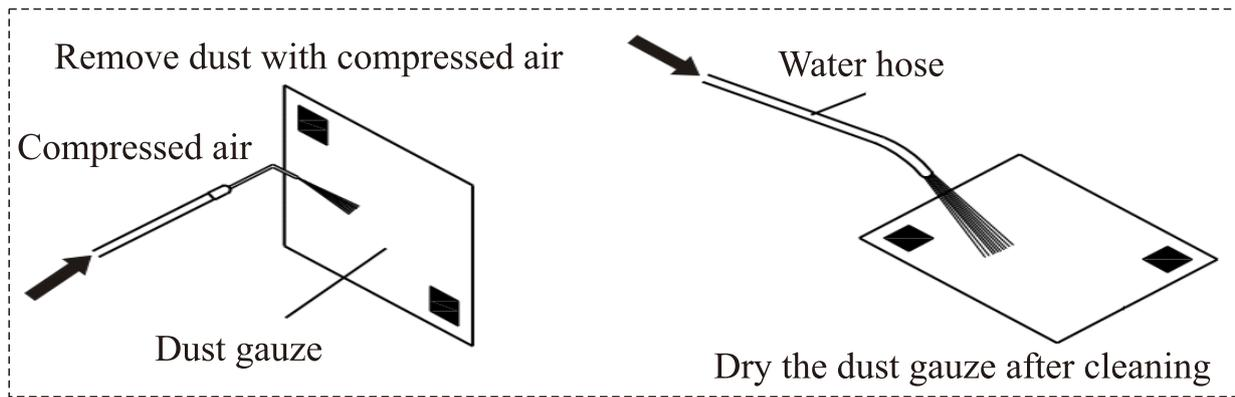

Figure 10 Clean and dry the dust gauze
- ◆ Check the dust gauze and clean the dust and foreign matters on it (see figure 10).